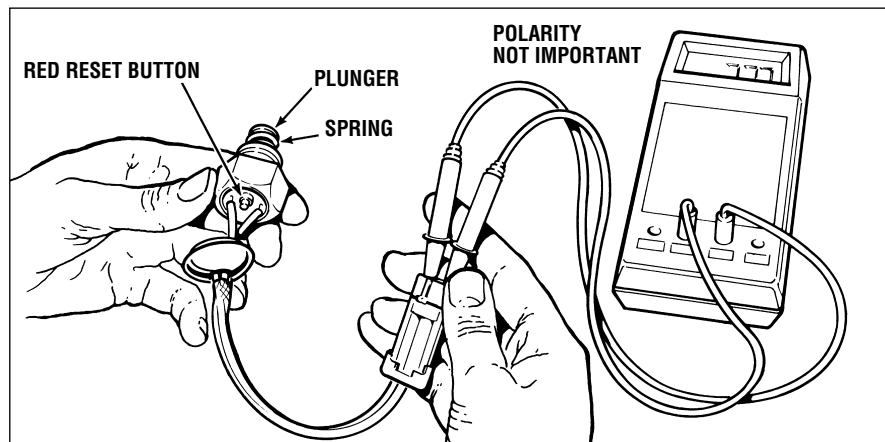

Figure 4-1 Overheat Sensor Test
- b) Connect a multimeter (adjusted to measure resistance) to the overheat breaker connector (See Figure 4-1). The sensor should be normally closed. Only if the sensor has tripped should it be open open circuit. Breaker resistance when closed should be less than 1 ohm. (Ensure your measuring device is capable of measuring this low resistance before replacing the overheat breaker based on this test.)